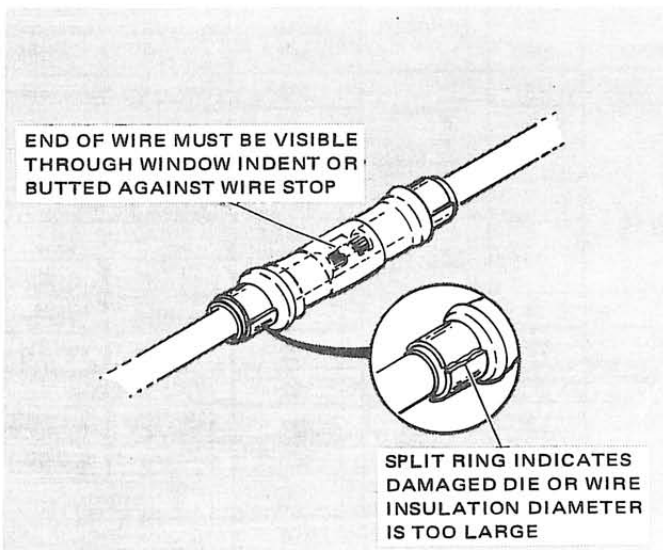

Figure 4
- (i) Refer to paragraph 2.2 for finished crimp inspection. See Figure 4.
Finished crimps should appear as shown in Figure 4. Perform the following inspection: